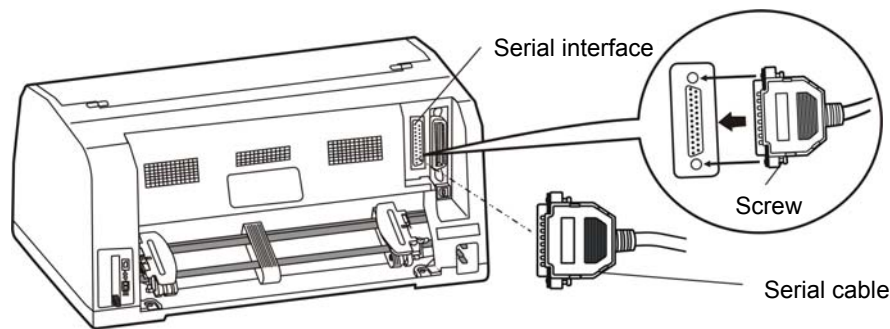

Figure 2-13 Connecting to the serial interface
1. Turn off both the computer and the printer. Plug the serial cable connector securely into the printer's serial interface. Squeeze the wire clips together until they lock in place on both side of the connector. (As shown in Figure 2-13)